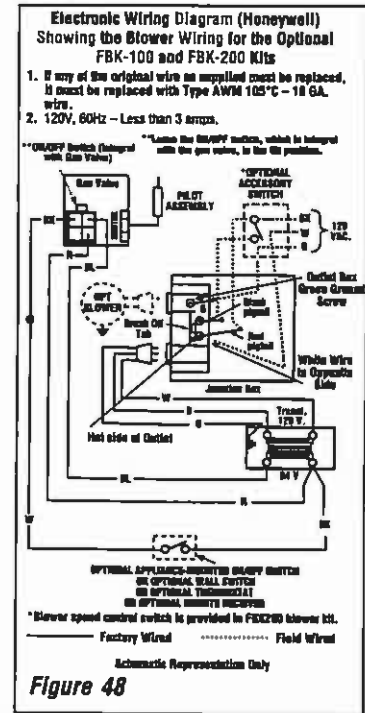
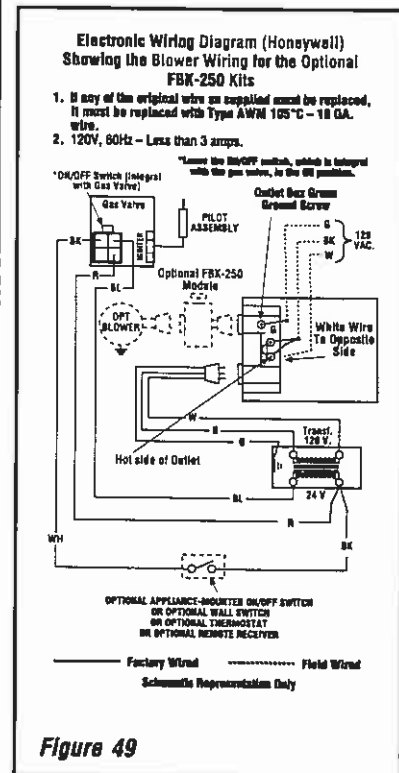

Figure 48
Figure 49
##### B. Electronic Wiring (See figure 48 or 49) –
3. Connect the power supply wires (including the ground supply wire) as shown in Figures 48 or 49. (If the field-provided J-Box/outlet box is being used, all of the outlet box wiring must be field-provided.)
*Note: The gas valve-mounted ON/OFF switch is shown in Figure 48 or 49. It is integral with the gas valve and should be set to the ON position.*
##### Step 5. WIRING - OPTIONAL FORCED AIR BLOWER KIT FBK-100, FBK-200 and FBK250 Kits (See Figure 48 for FBK-100, FBK-200 and Figure 49 for FBK-250 wiring) –
**IMPORTANT: Ground supply wire must be connected to the green wire attached to the outlet receptacle's green ground screw. See Figure 48 or 49. Failure to do so will result in a potential safety hazard. The appliance must be electrically grounded in accordance with local codes or, in the absence of local codes, the National Electrical Code, ANSI/NFPA 70-(latest edition). (In Canada, the current CSA C22-1 Canadian Electrical Code.)**